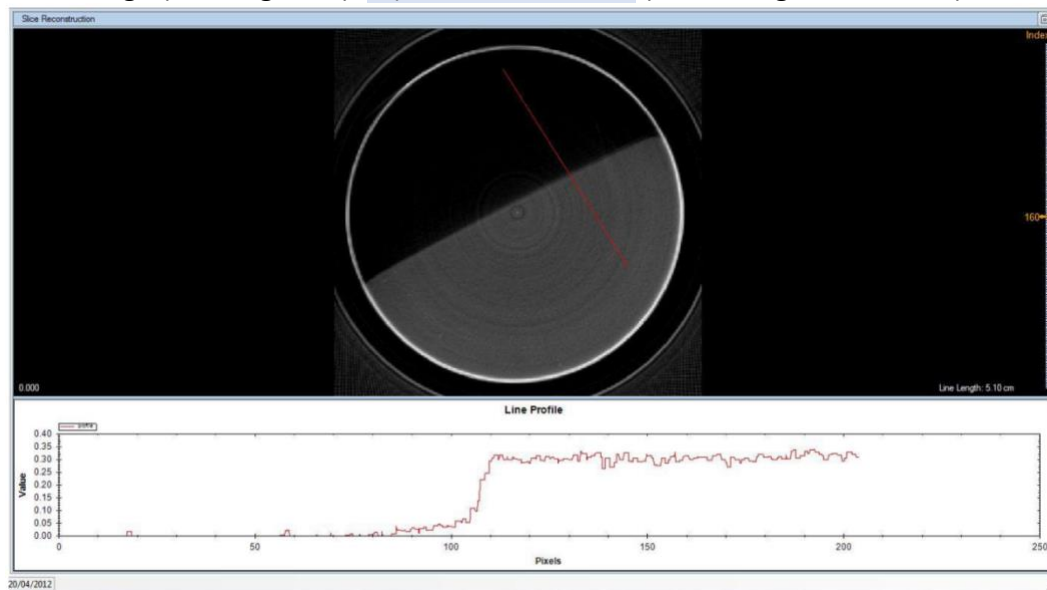

Figure 6: Line Profile through Step Edge Phantom in CT reconstruction.
12. Use the Line Profile (right click) tool to draw a line on the central slice, perpendicular to the Step Edge, a few mm from the axis of rotation and equally distributed on either side of the edge (as in Figure 6). Export Data as CSV file (ERF CT High Res Centre).